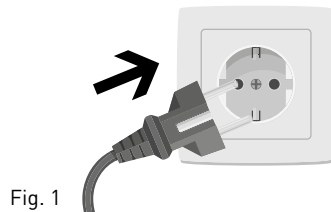

Fig. 1
- Plug the appliance (motor) in (Figure 1).